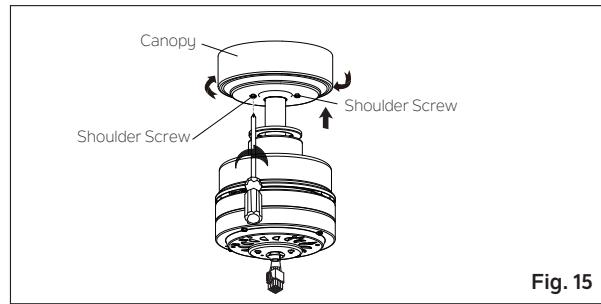

Fig. 15
Step 2. Raise the canopy to the mounting bracket. Place the key hole slots in the canopy over the shoulder screws in the mounting bracket. Rotate the canopy (clockwise) until the canopy locks in place against the shoulder screws (at the narrow ends of the key hole slots). Tighten the two shoulder screws to secure the canopy in place. (**Fig. 15**)